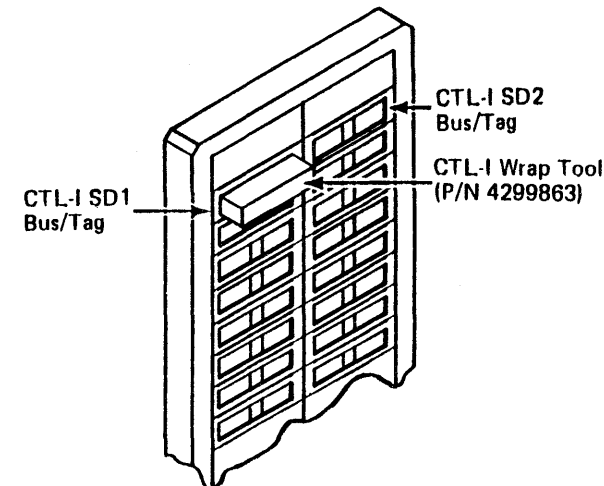

Figure 2. CTL-I Wrap Connection Shown for SD1, on 3880 Model 23
1. Connect the CTL-I wrap tool when instructed by the MD, as shown in Figure 2. Ensure that connections are made to the storage director being tested. If channel interface (CHL-I) wrap tests have already been run, ensure that the channel wrap tool is disconnected.